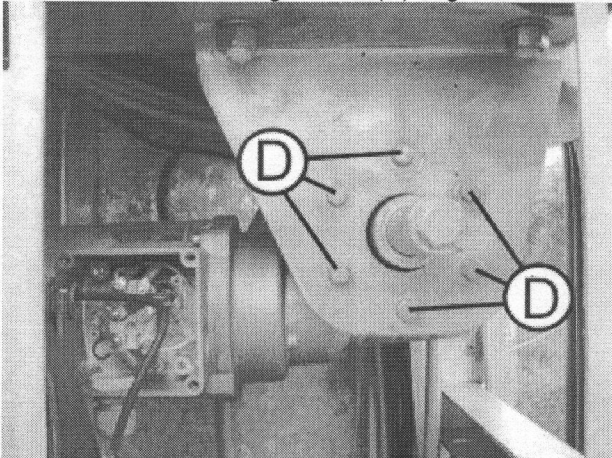

Fig. 088
10. Loosen retaining screws (D) of geared motor and remove motor downwards (Fig. 088).